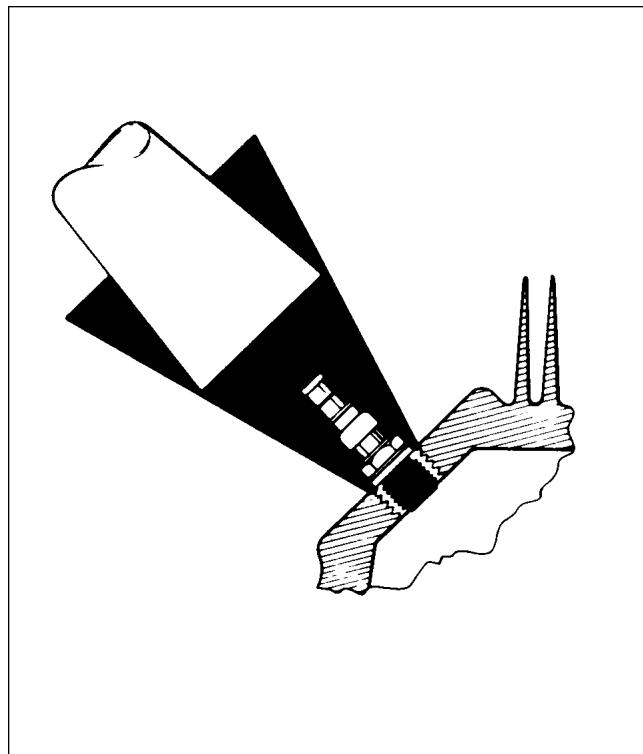

Figure 74-28. Removing Spark Plug
- d. Removal of seized spark plugs in cylinder is done by application of liquid carbon dioxide (CO_2) by a conical metal funnel adapter with a hole at the apex just large enough to accommodate the funnel of a 20 lb bottle. (Refer to Figure 74-28.) When a seized spark plug cannot be removed by normal means, funnel adapter is placed over and around spark plug. Place funnel of CO_2 bottle inside funnel adapter and release carbon dioxide to chill and contract spark plug. Break spark plug loose with a wrench. A warm cylinder head at the time carbon dioxide is applied will aid in removal of excessively seized plug.